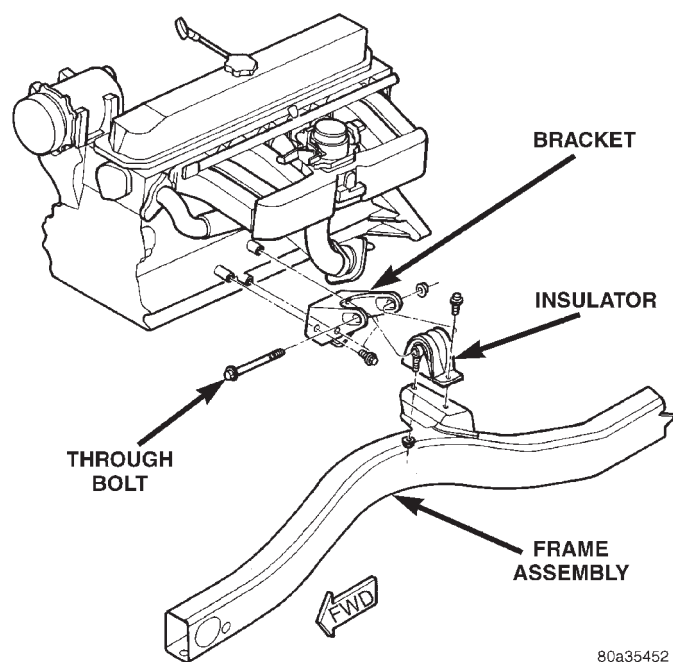
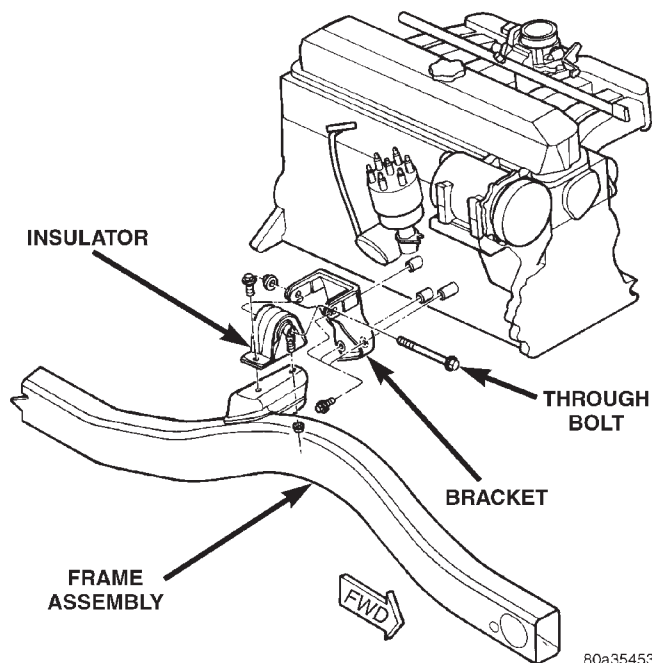

Fig. 23 Left Front Engine Mount
Fig. 24 Right Front Engine Mount
- (1) Disconnect negative cable from battery.
- (2) Raise the vehicle.
- (3) Support the engine.
- (4) Remove the nut from the through bolt (Fig. 23) (Fig. 24). DO NOT remove the through bolt.
- (1) If the engine support bracket was removed, position the bracket onto the block and install the attaching bolts (Fig. 23) (Fig. 24). Tighten the bolts to 62 N·m (46 ft. lbs.) torque.
- (2) Place the insulator on the support bracket. Install the insulator retaining bolts and nuts. Tighten the bolts and nuts to 52 N·m (38 ft. lbs) torque.
- (3) Install the through bolt and the retaining nut. Tighten the through bolt nut to 69 N·m (51 ft. lbs.) torque.
- (4) Remove the engine support.
- (5) Lower the vehicle.
- (6) Connect negative cable to battery.